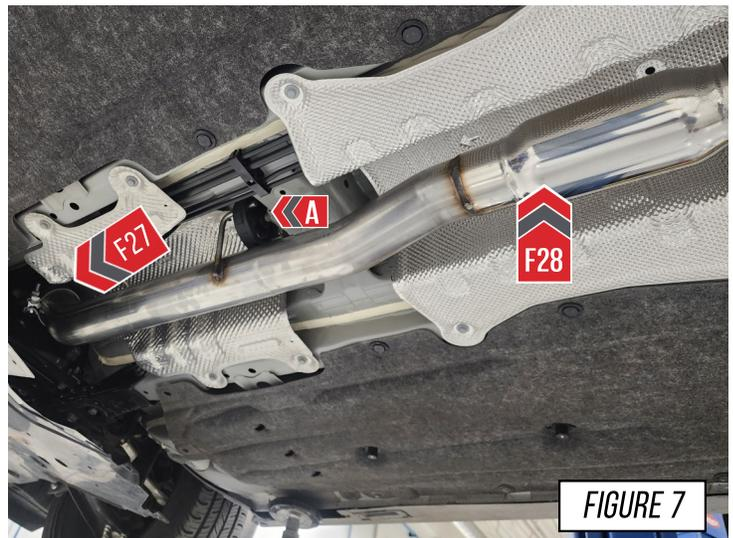

FIGURE 7
Bottom the slip fit out on the rear side of your AWE front pipe (F27), as shown in **Figure 7**.
Next reinstall the OE hanger on the hanger bar, as shown at (B) in **Figure 7**.